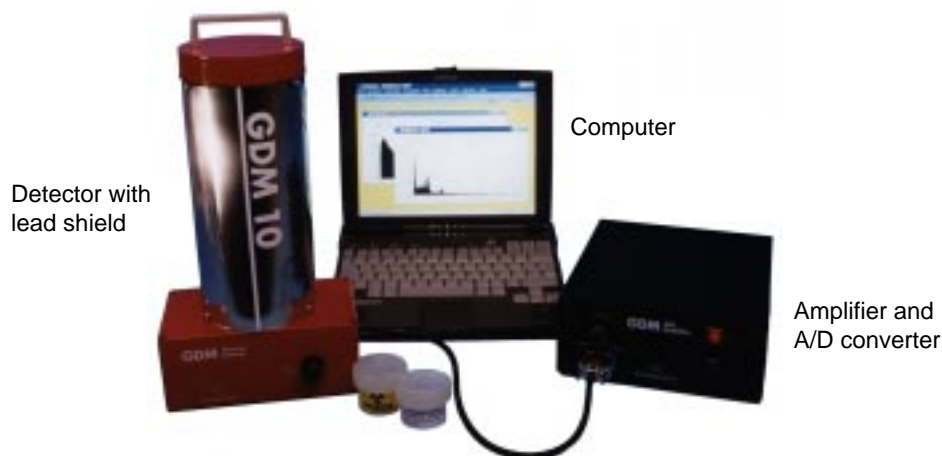

Figure 1.
The detector is a scintillation detector, which consists of a cylindrical NaI crystal with a height and a diameter of 5 cm. When the gamma radiation hits the crystal it creates a weak light. The light is collected and converted to electrical pulses by a photo multiplier tube (PM). The pulses are amplified in an amplifier. An A/D converter converts the size of the pulses to digital information, which is processed by the computer. The result is presented on the screen of the computer in the form of a frequency diagram of the energy distribution of the detected gamma quanta, i.e. a spectrum. Figure 1 shows a simplified block diagram of the system.